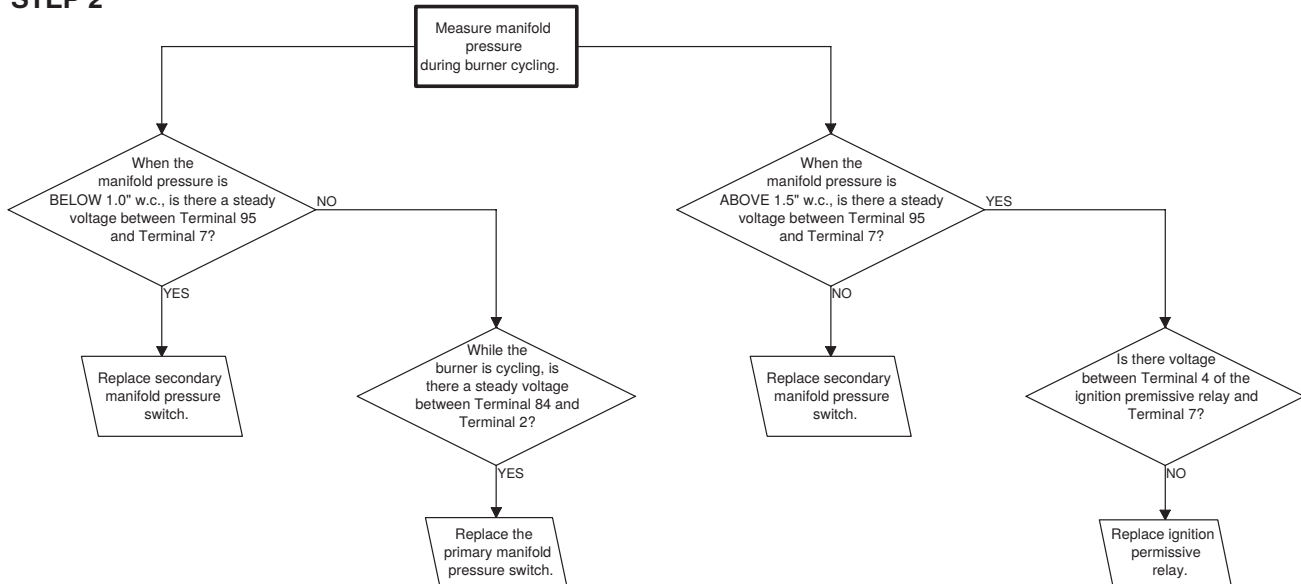

Figure 38. Troubleshooting Guide for Checking Bypass Combustion Air Damper Safety Circuit on Units with Option AG39 or AG40
1. Main burners are inoperative—24V is available between terminals 2 and 7 (see step 1, Figure 38).
2. Steady call for heat (burner cycles)—24V is available between terminals 11 and 7 and terminals 2 and 7 (see step 1, Figure 38).